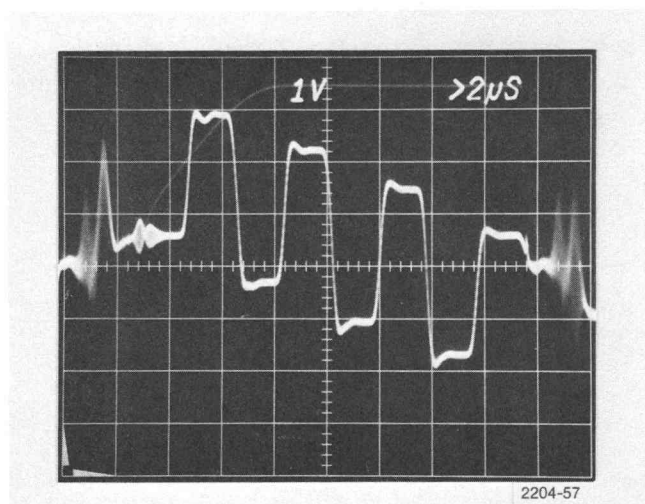

Fig. 6-10. FM Demodulator Transient Response.
d. CHECK—for transient response similar to that shown in Fig. 6-10.